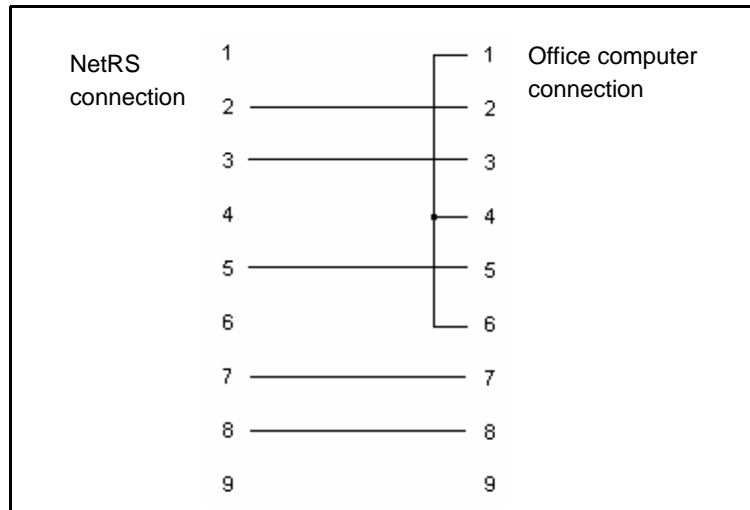

Figure F.1 DCE adapter wiring
- To connect through ports 1 and 3, use a DCE adapter to assert the CD signal. Make sure that the adapter is wired as shown in Figure F.1.